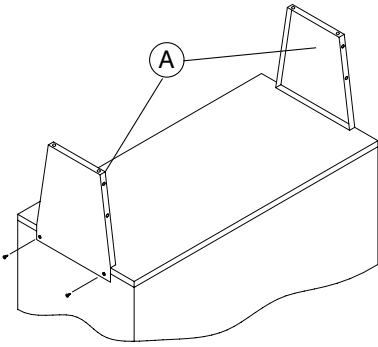

Figure 1
STEP 1: Remove the existing Sheet Metal Screws **(H)** on the side of the hot food table and use the holes to line up the side **(A)**, then secure the side to the unit with the Sheet Metal Screws. **Figure 1.**